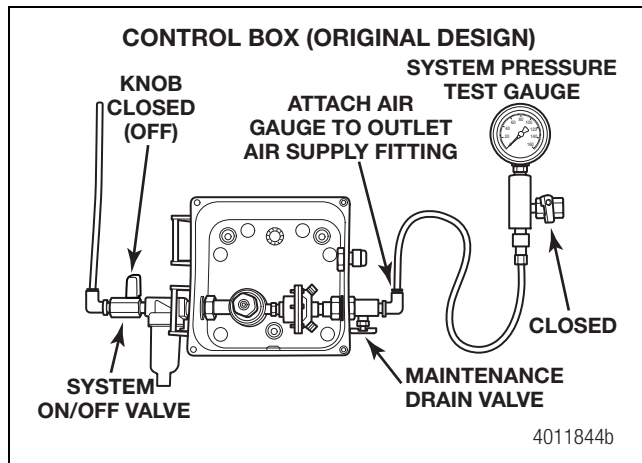
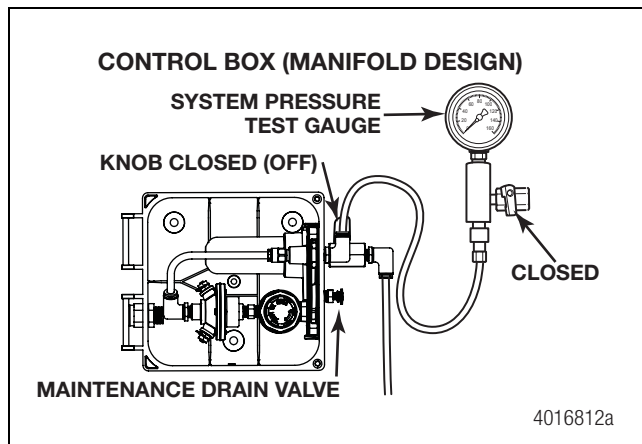

Figure 3.13
Figure 3.14
- Turn the supply line ball valve to the closed position. Figure 3.13 and Figure 3.14.
- Open the maintenance drain valve to deplete all air pressure from the system. Close the valve. Figure 3.13.
- Remove the outlet air supply line from the fitting on the air pressure outlet side of the control box. Connect the test gauge to the outlet air supply fitting. Figure 3.13.